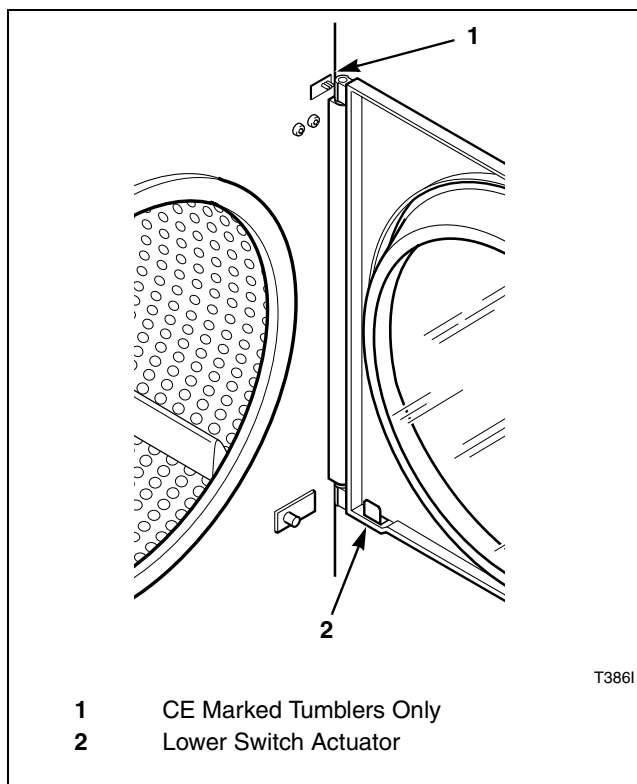

Figure 19
The door switch should be adjusted so the cylinder stops when door is opened 2 inches (51 mm) plus or minus 1/4 inch (6 mm). This switch is a normally open switch and is closed by the hinge cam when the door is closed. If adjustment is required, refer to *Figure 19* and proceed as follows:
CE Marked tumblers have a second door switch near the top of the door (refer to *Figure 19*). This switch also should be adjusted so cylinder stops when door is opened within 0 – 2 inches (0 – 51 mm). This switch is normally closed and is opened by the hinge cam when the door is opened. If adjustment is needed, refer to *Figure 19* and proceed as follows:
1. Remove lower switch actuator (*Figure 19*) so upper switch “click” can be heard.